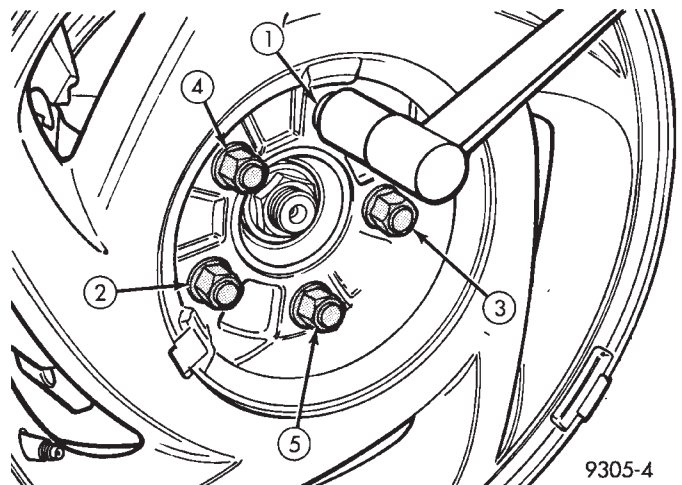

Fig. 8 Tightening Wheel Nuts
(6) Install wheel and tire assembly on vehicle. Tighten the wheel mounting stud nuts in proper sequence (Fig. 8) until all nuts are torqued to half specification. Then repeat the tightening sequence to the full specified torque of 129 N•m (95 ft. lbs.).
(7) Lower vehicle to the ground.
(8) Check and reset rear wheel TOE to specifications if required.